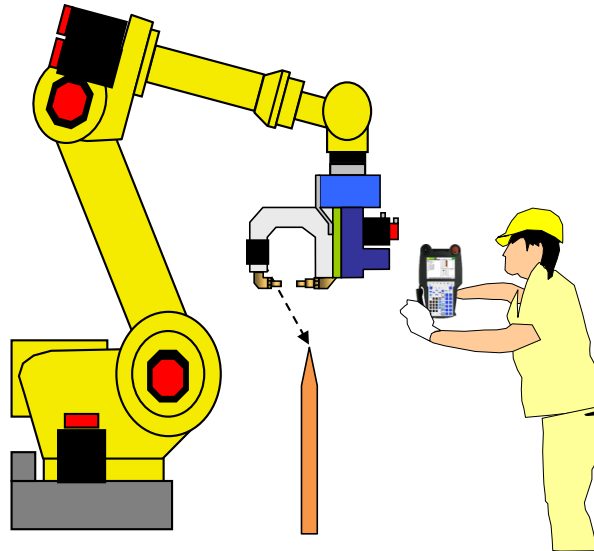

Fig. 3.6.2(a) Six point method
- 1 Use Tool Frame Six Point (XY) method to set LVC Sensor Frames. This allows users to “touch” the top of the sensor in various locations to define a TCP corresponding to the Sensor Origin and Orientation. The numbers on the sensor label corresponds to each points of Six Point method as Fig 3.6.2(b). More information about Tool Frame Six Point (XY) method, please refer to OPERATOR'S MANUAL (Basic Operation) (B-83284EN) Subsection 3.9.1.